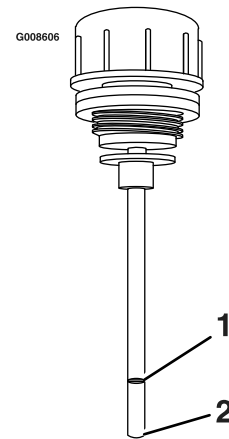

Figure 25
6. Remove the cap again and check the level of the oil on the dipstick. See Figure 25 for oil levels.